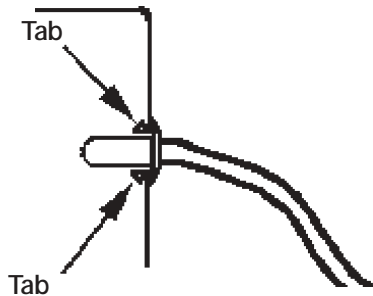

Figure 2-13
2. Squeeze the locking tabs on the thermistor to remove from the inner enclosure. (See Figure 2-13)